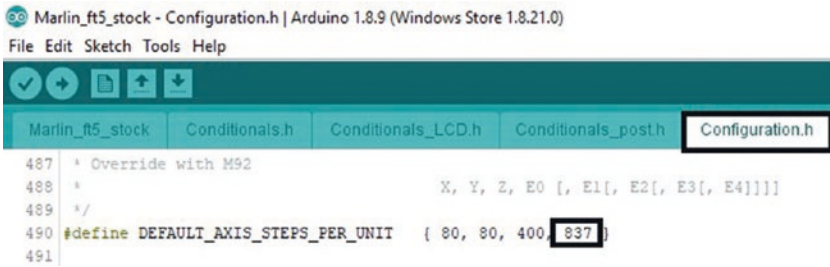

Figure 4-33. Update steps/mm value of the extruder motor
1. Find the steps/mm perimeter in the firmware for your printer, change the value, and upload the firmware to your printer. See Figure 4-33.